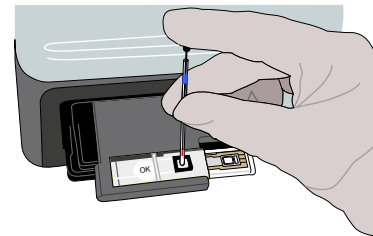

Figure 19. Sample transfer to cassette
14. Place the tip of the sample transfer device into the sample application hole of the Labmaster LUCIA™ cassette so that it contacts the membrane. See Figure 19.